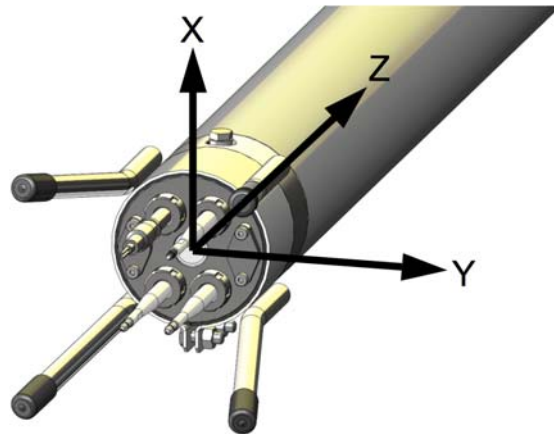
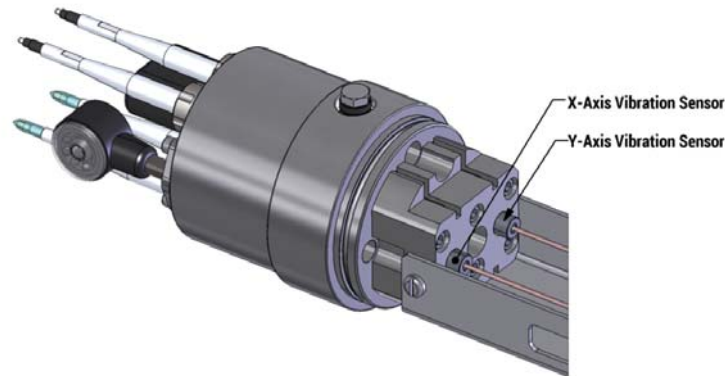

Figure 2: Coordinate System
Figure 4: Vibration Sensors
The coordinate system of the VMP-250-IR is as follows (Figure 2):
- x-axis: It is directed through the threaded hole which is used for the “ON” magnet (Figure 2). Nominally, horizontal on a vertical profiler.
Two vibration sensors are installed on a mounting block that is located inside the instrument (Figure 4). Each vibration sensor is a piezo-accelerometer that is fixed in position and cannot be adjusted or removed. The vibration sensors are alternating current (AC) sensors and are treated like shear probe channels. Their primary purpose is to sense the vibrations of the instrument in the x- and y-directions (Figure 2). Common-mode vibrations measured by both the vibration sensors and the shear probes (such as vibrations induced from the instrument) can be removed from the shear signals during post-processing of the data.